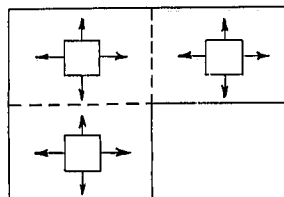

FIG. 3 - Mount the unit on the ceiling at the center of area to be cleaned.
The electronic Air Cleaner should be mounted on the ceiling near the center of the room. Air is drawn into the bottom of the air cleaner and discharged in four (4) directions. Divide larger rooms into sections and use a unit in the center of each section (see Fig. 3).